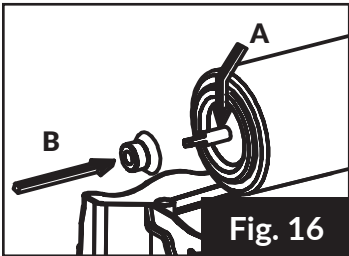

Fig. 16
2. Lubricate the surface of the cylinder in the zone of the transmission shaft outlet (A). (Fig. 16)
3. Place the Spiral Blade Gasket (B), lubricating both the internal and external surfaces. (Fig. 16)